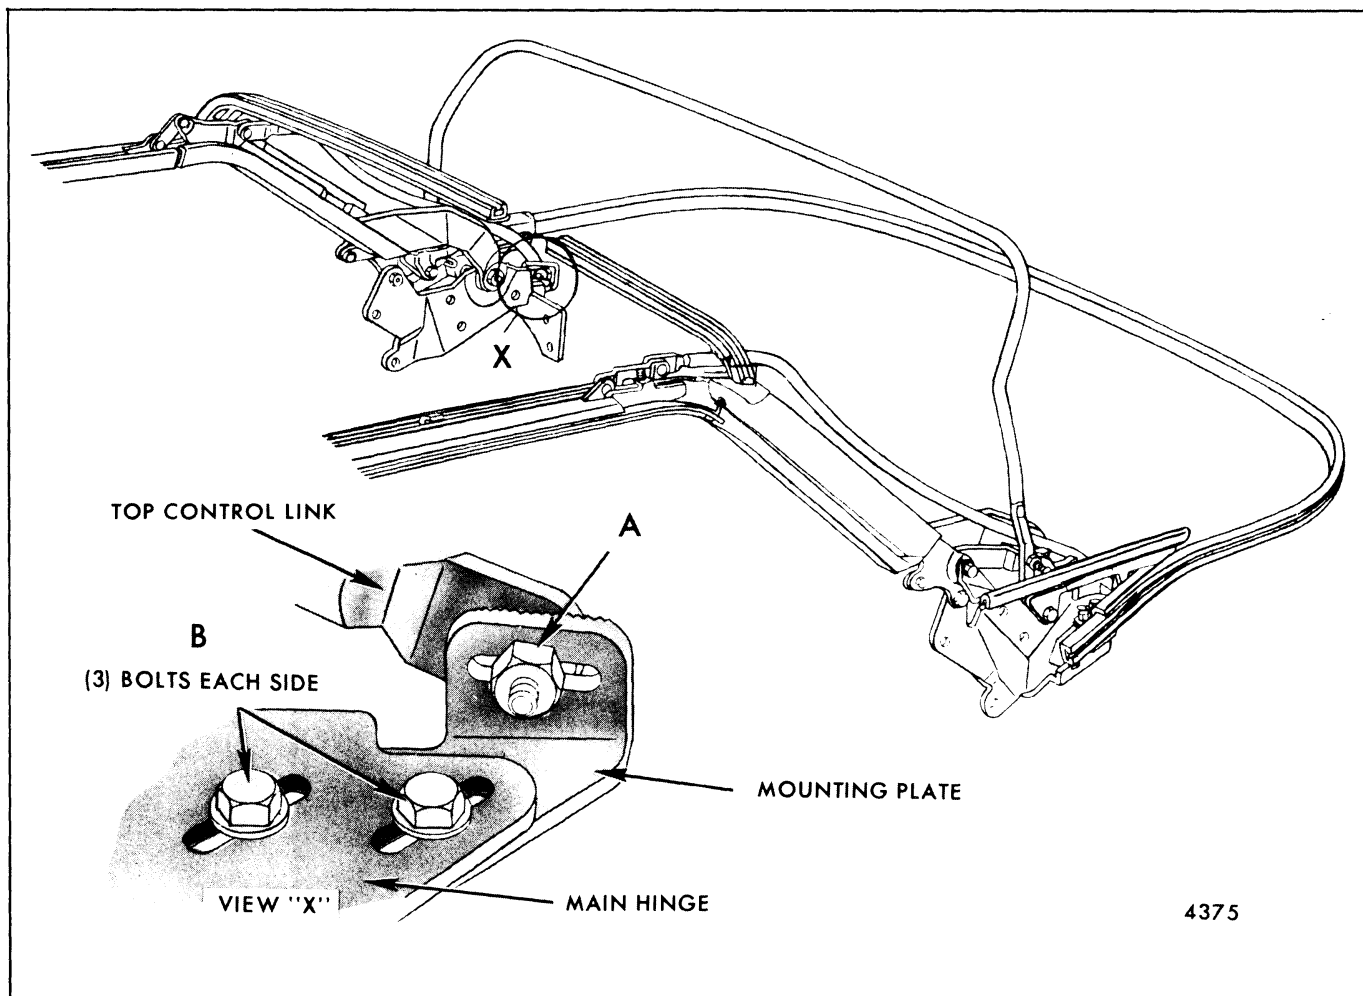

Fig. 8-71-Top Control Link and Mounting Plate Attachment
3. Loosen top control link attaching nut (Item "A", Fig. 8-71) on each side. Allow front and side roof rails to lay normally in folding top compartment.
3. Loosen three mounting plate attaching bolts (Fig. 8-71).